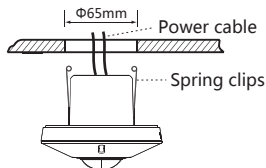

FIG.12
- Close up detector's two spring clips and insert detector into the drilled hole on ceiling (See FIG.12).